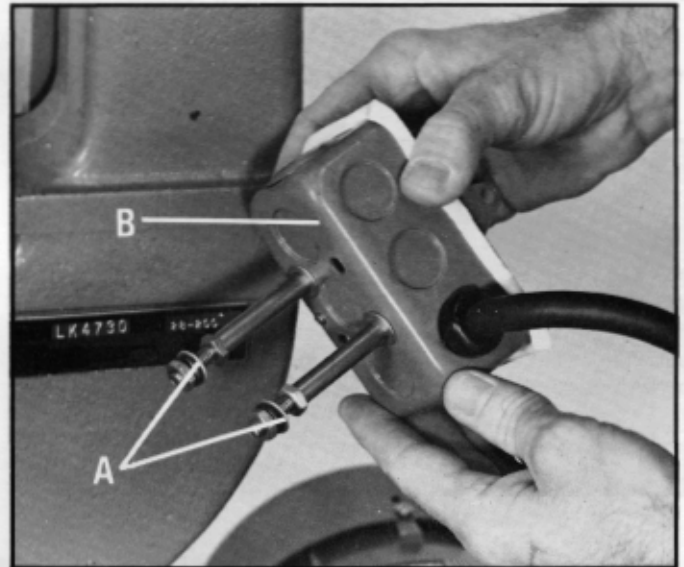

Fig. 10
2. Remove the two outer nuts, lockwashers and flat washers (A) Fig. 10, from the two screws extending out from the back of the switch box (B).